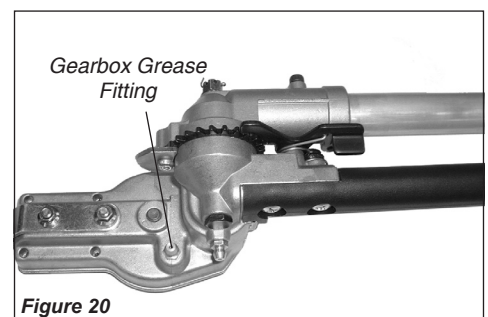

Figure 20
- Lubricate the cutter assembly gearbox by pumping one or two strokes of lithium-base grease into the grease fitting using a lever-type grease gun. See Figure 20.